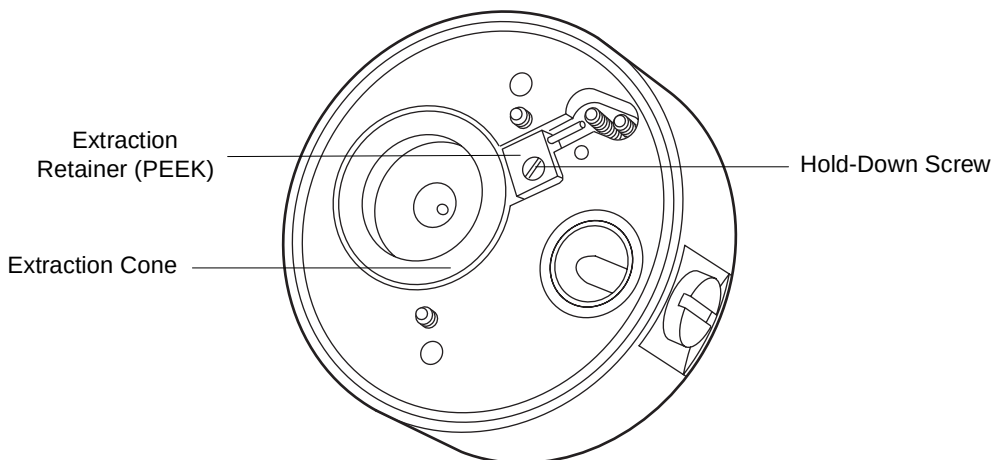

Figure 5-12 Ion Block Rear View
19. Use the Phillips-head screwdriver to remove the hold-down screw from the PEEK extraction cone retainer (Figure 5-12).